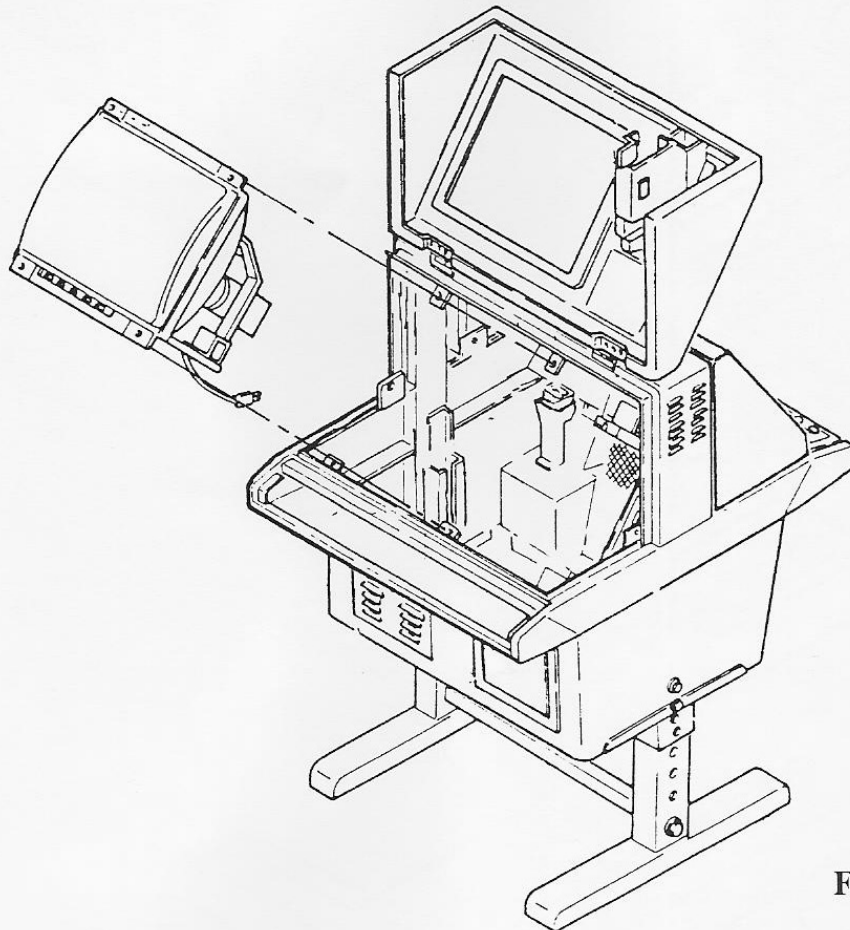

Fig. 5
- B. Remove the four (4) screw/washer assemblies in the corners of the monitor mounting brackets using a Phillips head screwdriver (see Figure 5).